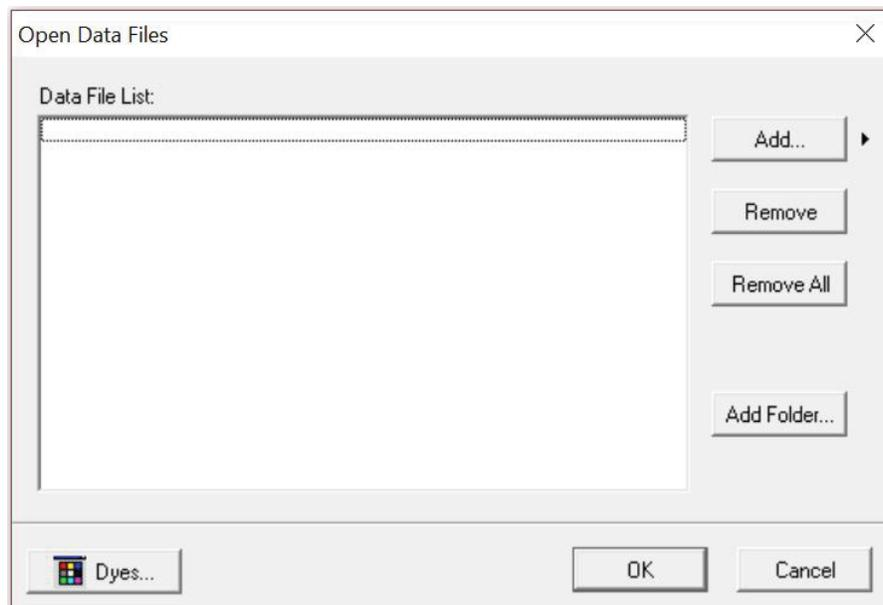

Figure 29. The GMHID-Spectrum 'Data File List.'
4. Select **Open**, and the selected files will appear in the 'Data File List' (Figure 29).